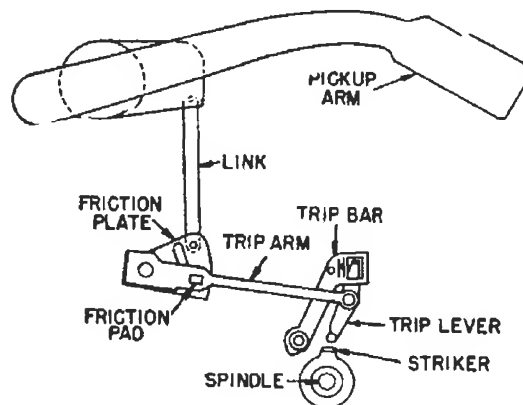

FIG. 6. A velocity trip.
**Velocity Trip.** Fig. 6 shows one of the velocity systems. There are many styles of these, but practically all of them depend upon some friction device that does not trip the mechanism until
In Fig. 6, the pickup arm is coupled through a link to a friction plate. Therefore, the friction plate is pushed clockwise in this figure. This motion is transferred to the trip arm through